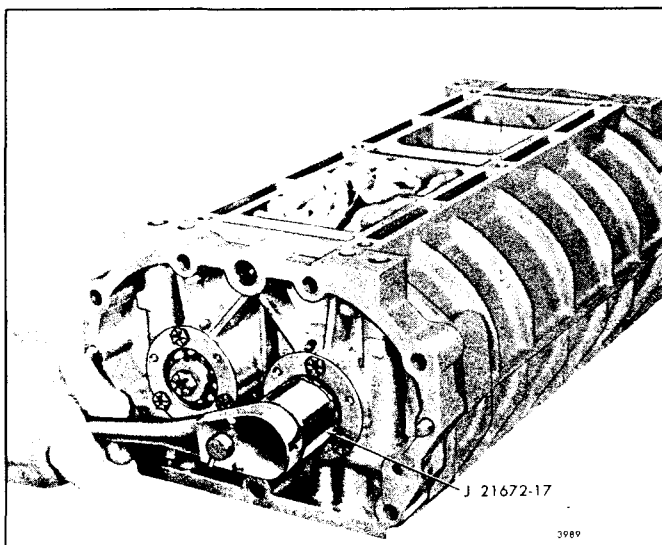

Fig. 6 - Removing Rotor Bearing Retaining Nut
5. Remove the bolts securing the rotor shaft bearing retainers (71) to the rear end plate, then remove the retainers.
6. Remove the bolt and special washer (80) securing the ball bearing (former blower) or roller bearing (current blower) on the right-hand helix rotor shaft at the front end of the blower.
7. Bend the tang of the bearing retainer nut lock washer (81) up out of the notch in the bearing lock nut (82). Then remove the bearing lock nut with spanner wrench J 21672-17 as shown in Fig. 6.
9. Remove the socket head bolt (50) securing the blower rear end plate to the blower housing. Tap each end of the rear end plate with a plastic hammer to